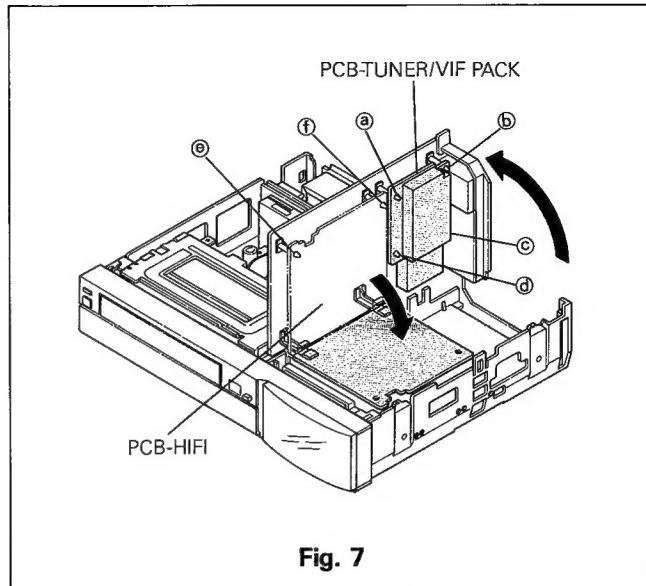

Fig. 7
- B. Untasten the four supports (Ⓐ ~ Ⓞ) and remove the PCB TUNER as shown in Fig. 7.
- B. Unfasten the two supports (Ⓔ and ⏁) and rotate the PCB HIFI as shown in Fig. 7.